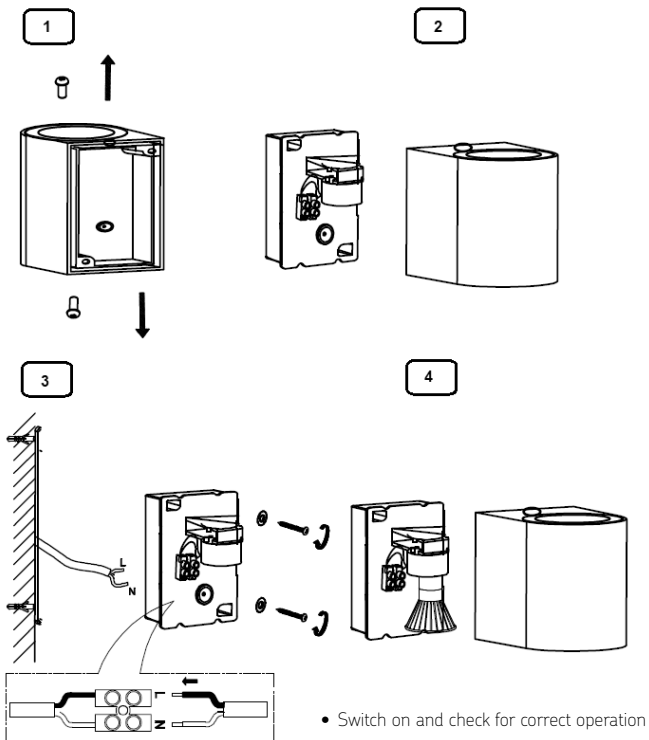

Fig. 1
- Remove the baseplate from the luminaire body by loosening the screws on either side of the base (see Fig. 1)
- Using the baseplate as a template, mark the location for, and drill the fixing holes ensuring not to infringe with any gas/water pipes or electrical cables (see Fig. 1)
- Connect the luminaire to the mains supply ensuring the correct polarity is observed: L – Live (brown) and N – Neutral (blue) (see Fig. 1)
- Align the luminaire body with the baseplate and refasten the screws (see Fig. 1)
- Insert suitable GU10 LED lamp/s (see Fig. 1)